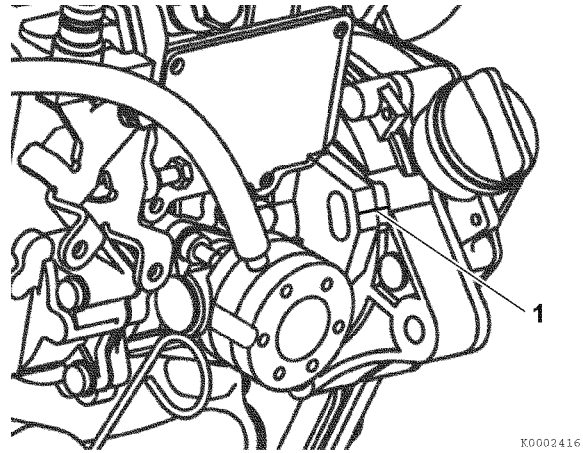

Figure 7-20
19. Locate the mark (**Figure 7-20, (1)**) stamped into the upper outside mounting boss of the fuel injection pump. Highlight this mark and make a corresponding mark on the gear case or front plate (3TNV74F, 3TNV80F).